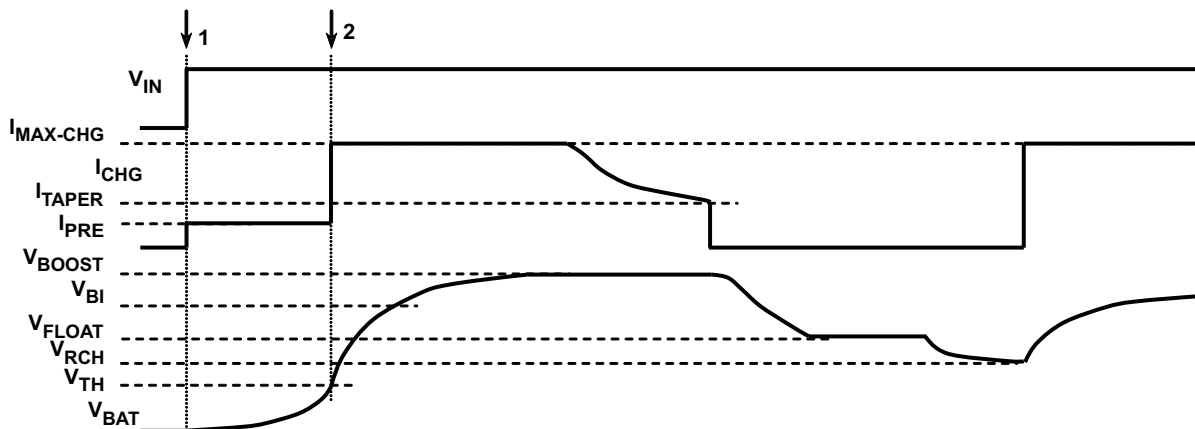

Figure 7.
Once the battery voltage rises above a safe threshold V_{TH} at (2) in Figure 7, the enable comparator turns OFF Q3 and Q4, thus turning OFF Q5 and enabling Q1. Q_{EXT} then provides $I_{MAX-CHG}$, and the circuit after this performs as described before.